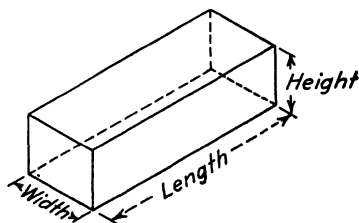

FIG. 36-7.
1. The volume of a box is equal to its length times its width times its height (Fig. 36-7).